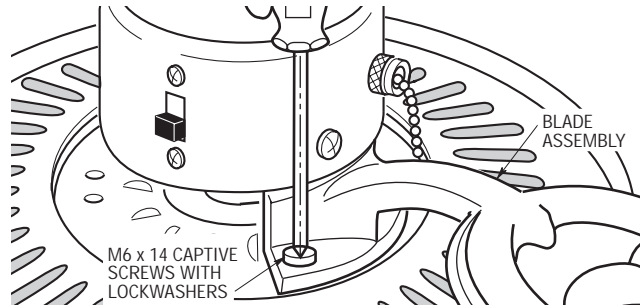

Figure 8
- 10. Loosely attach one blade assembly to the motor hub using two M6 x 14 captive screws with lockwashers. Make sure the screws are NOT tightened. (Figure 8.) Repeat this procedure for other four blade assemblies.